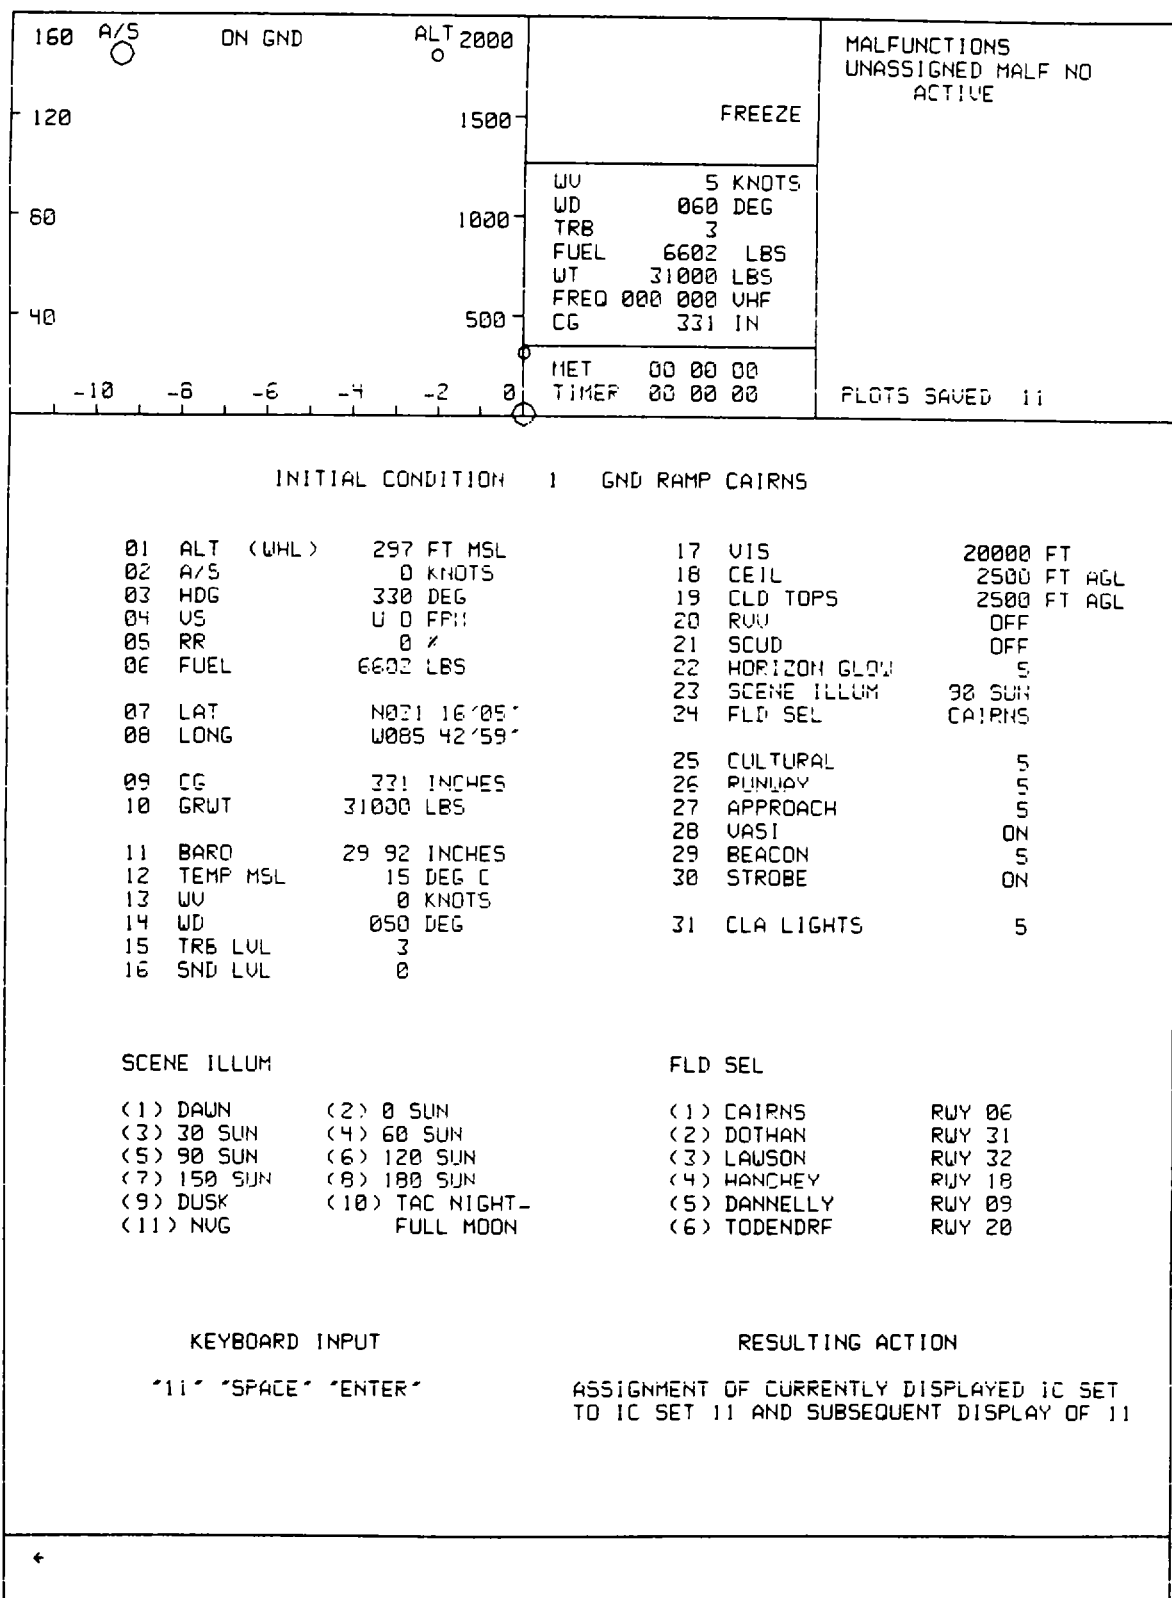

Figure 8-15. Typical Initial Conditions Display
8-107. After these checks, training can proceed by securing doors, fastening seat belts, initializing motion, and unfreezing the simulator. When the simulator has been turned on (cold start) and the computer first loaded, IC set 011 contains the same initial conditions as IC set 010. This reflects a CH-47D parked on a pad, with normal training gross weight and center of gravity, engines off, APU off, fuel full, calm standard day weather, and training system in freeze condition. Depending on which initial conditions page is selected, lighting values (items 25, 26, 27, 29, and 31) are set at values ranging from 0 (off) to 5 (maximum brightness). Other values on the initial conditions pages are based on standard aeronautical terminology with self-explanatory terminology. (See figure 8-15 for a typical initial conditions display.)